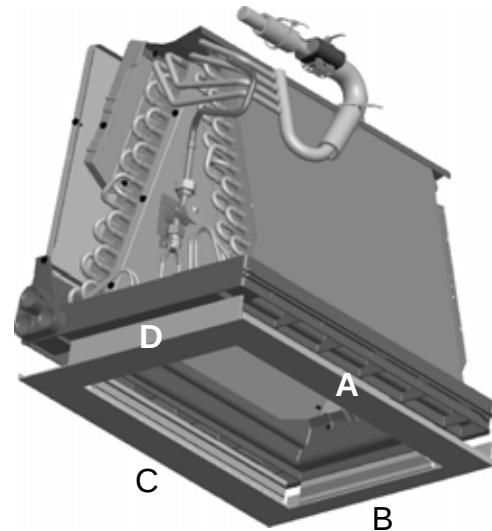

FIGURE 2 - Rolled Edge Location
4. Line up side A of the insulation with side A of the drain pan and firmly attach the insulation to the drain pan with roughly a ¼" portion of the insulation folded over the edge as shown in Figures 2 and 3. Fold the insulation over to cover the inside portion of the drain pan on side A.